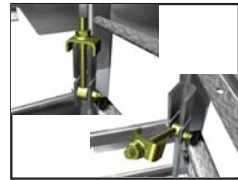

Fig. 5.2
- 2- Flip the 5/8" x 6 1/2" toggle bolt, mast clamp and flange nut onto the connecting lug (fig. 5.2) and tighten by hand. Perform this operation for all (4) corners.
- 1- To remove one mast section, loosen the toggle bolt assembly and disengage from the connecting lug (fig. 5.2). Perform this operation for all four (4) corners.
- 5- For best results when carrying mast sections in bundles, it is recommended to strap them in groups of nine (9). Make sure that mast sections positioned in the middle are securely strapped to the other sections to prevent them from slipping out during transport.